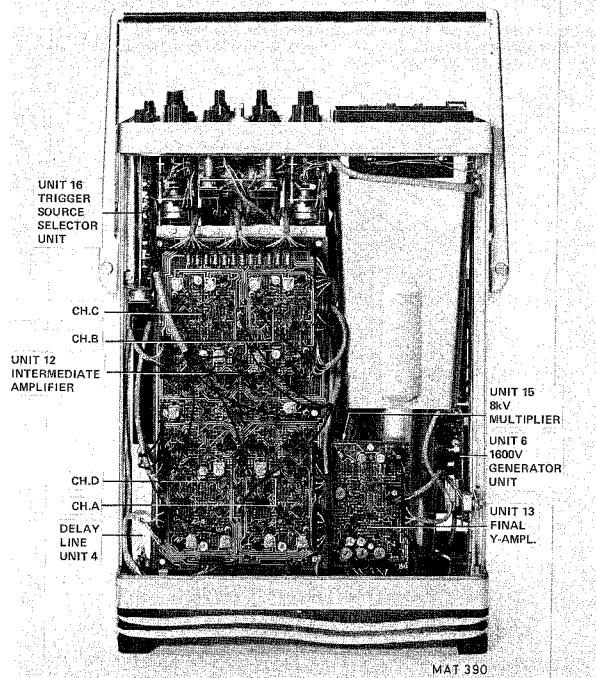

Fig. 3.4. Unit location, top view
This section provides the dismantling procedures required for the removal of components during repair and routine maintenance operations. All circuit boards removed from the oscilloscope should be adequately protected against damage, and all normal precautions regarding the use of tools must be observed. During dismantling procedures, a careful note of all leads disconnected must be made so that they may be reconnected to their correct terminals during assembly. For unit-location refer to Fig. 3.4 and 3.5.
**3.4.8. Removing the intermediate amplifier circuit board (fig. 3.4)**
**3.4.9. Removing the final Y amplifier circuit board (fig. 3.4)**
**3.4.10. Removing the trigger source selector circuit board (fig. 3.4)**
**3.4.11. Removing the delay line (fig. 3.4)**
**3.4.13. Removing the 8 kV multiplier (fig. 3.4)**